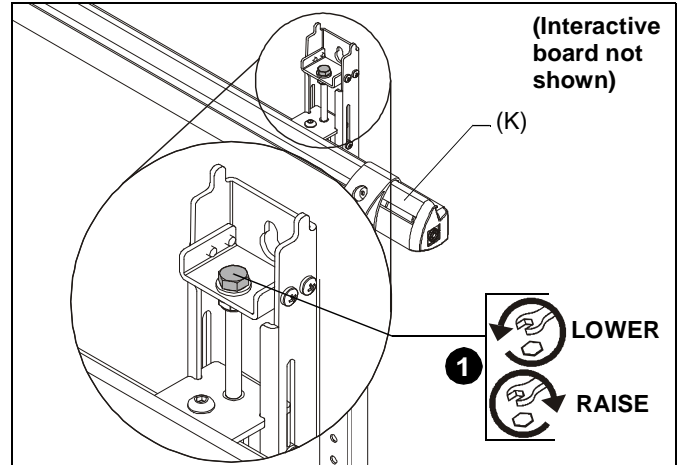

Figure 11
- The wall assembly (K) can be adjusted or leveled by turning the hex head bolt in the brackets. (See Figure 11)